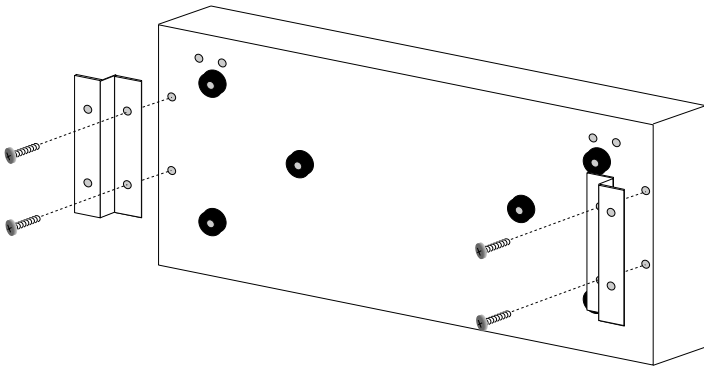

Figure 3-5. Installing the Wall Mounting Brackets
1. Use the supplied screws to attach the wall mounting brackets to the bottom of the STH as shown in Figure 3-5. There are two brackets, one for each side.